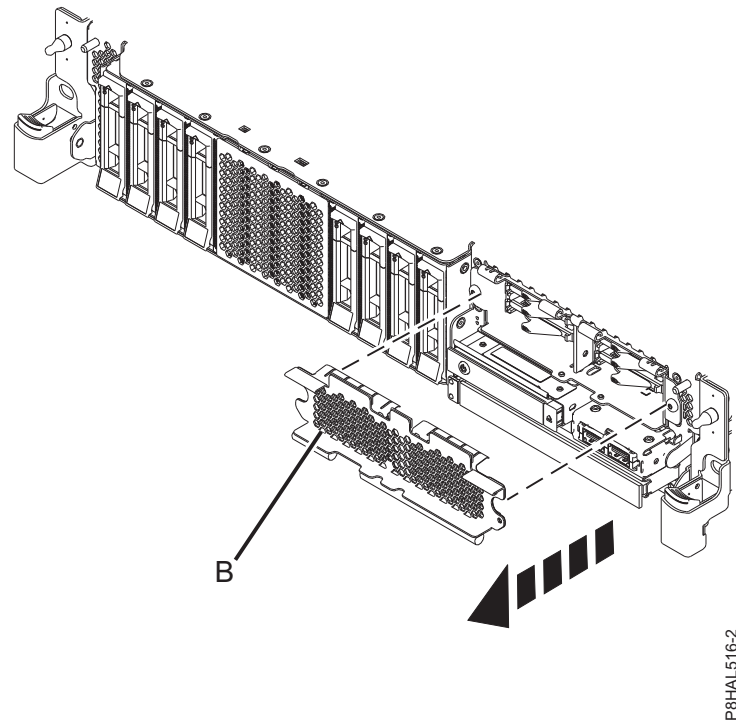

Figure 15. Removing the SSD cage cover to access the SSD slots in an expanded function system
14. To access the SSD slots, remove the perforated plate (B) covering the SSD cage as shown in Figure 15 on page 19.